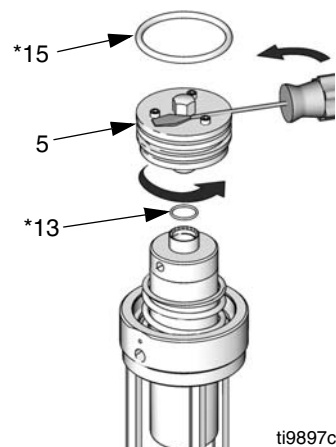

FIG. 12 Series B Air Valve
3. *Series B air motors only:* Unscrew air valve (5). If necessary to assist turning, wedge a screwdriver blade between the screw heads and the hex cap of the air valve (5). Inspect o-rings (13* and 15*) for damage and replace if necessary. Ensure o-ring (13*) is correctly positioned and not pinched. See FIG. 12.
NOTE: See Air Motor Repair, step 3 and step 4 (FIG. 12) for special notes on reassembly.